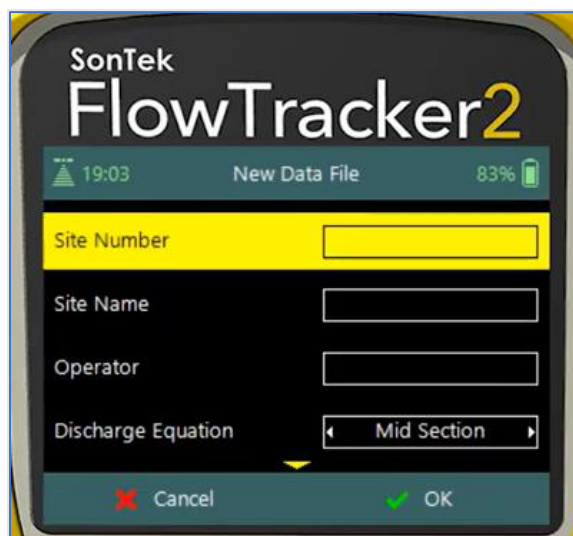

Figure SOP 24.8. FlowTracker2 Metadata Menu.
4. Enter the *Site Number* and *Site Name* (they should be identical), and your initials into the *Operator* field, ensuring that the *Discharge Equation* displays “Mid-Section” (Figure SOP 24.8).